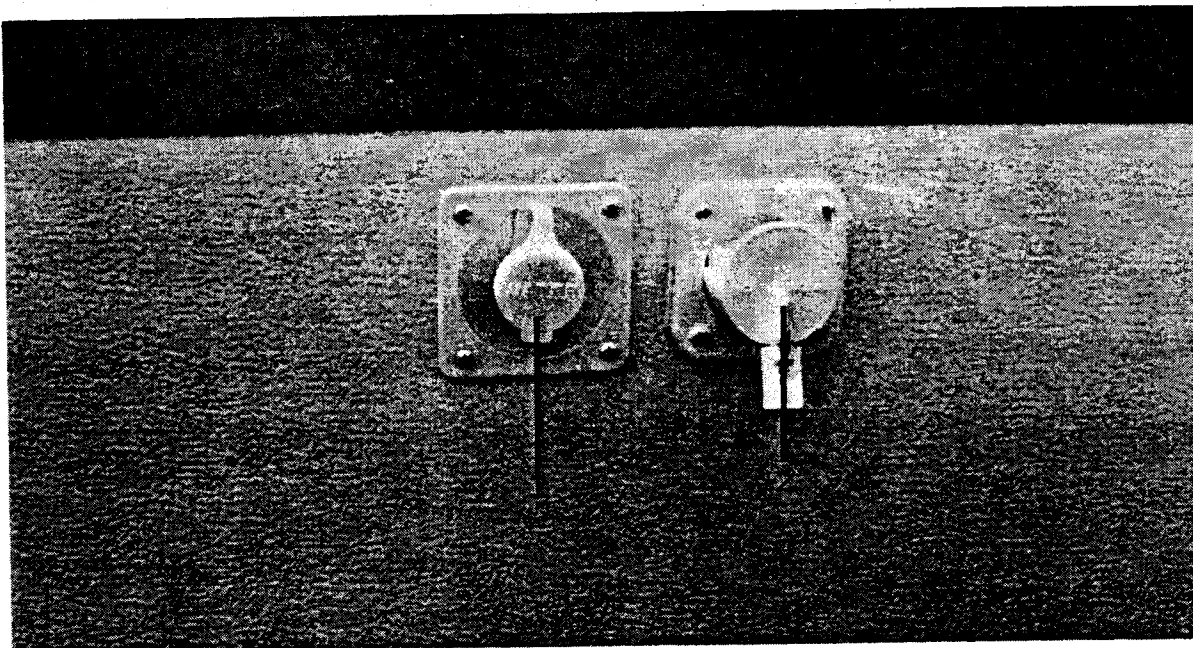

Figure 8-1. Typical Fresh Water Service Connections
3. Pour one gallon of solution for each fifteen gallons of tank capacity into fill spout. (See Figure 8-1).
- a. Connect garden hose to water service connection (1) located on roadside of coach. (See Figure 8-1).
- b. Release retainer clip on water fill spout (2) and pull spout out.
- a. Release retainer clip on water fill spout (2) and pull spout out. (See Figure 8-1).
CONNECTING TO CITY WATER (See Figure 8-1).